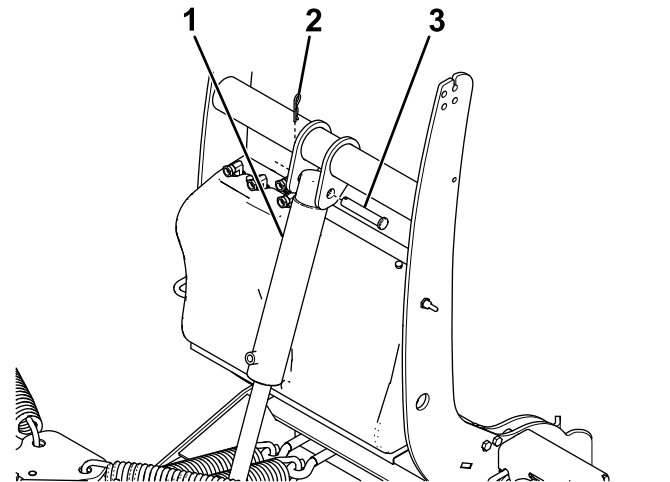

Figure 11
- Secure the free end of the lift cylinder to the coupler tower using a clevis pin (5/8 inch) and hairpin cotter (Figure 11).